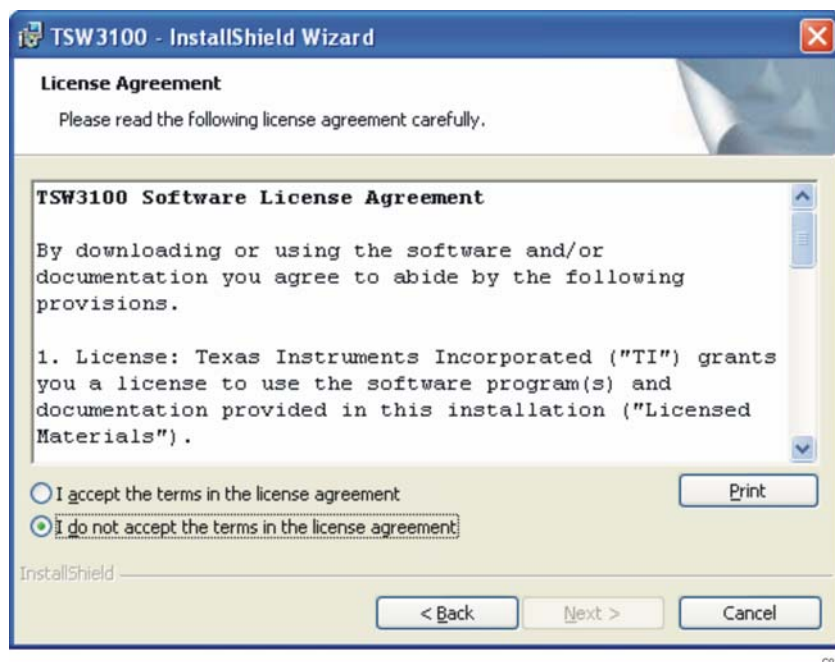

Figure 13. TSW3100 License Agreement
2. When the License Agreement (Figure 13) displays, select the *I accept the terms in the License agreement* option and click *Next* to accept the TSW3100 Software License Agreement.